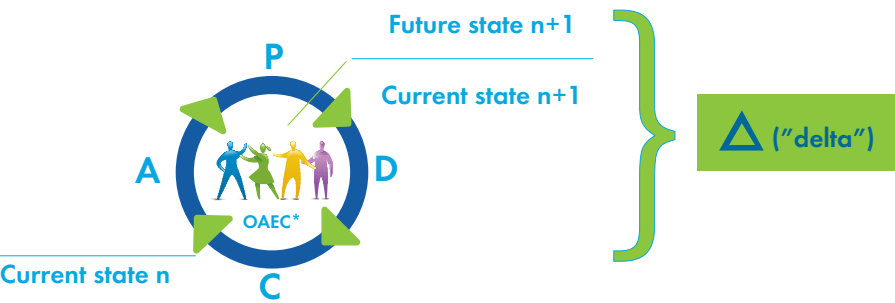

Figure 6. The PDCA Cycle
- Deploy critical countermeasures into a PDCA (Plan Do Check & Adjust) Cycle (Figure 6)—also called a “First Run Study”.